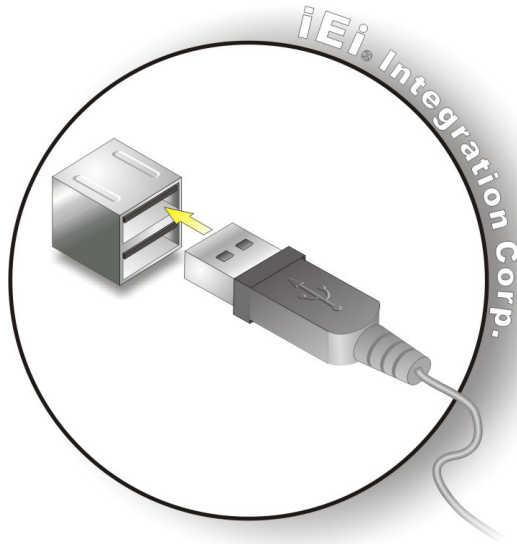

Figure 3-20: USB Device Connection
Step 3: **Insert the VGA connector** Once the connectors are properly aligned with, insert the male connector from the VGA screen into the female connector on the TANK-870-Q170 Series. See **Figure 3-20**.